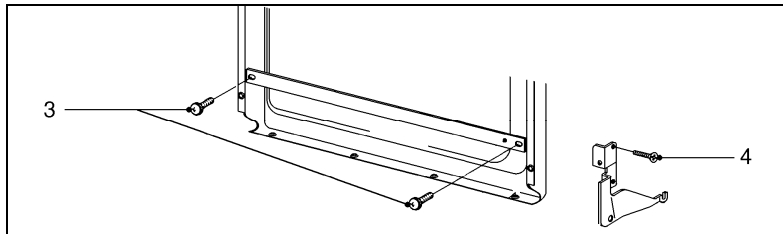

Figure 5-13: Inner Door Panel Removal
8. Remove the screws (Figure 5-13, Item 3).
9. Open the door. Remove the raised-head screws (Figure 5-13, Item 4).